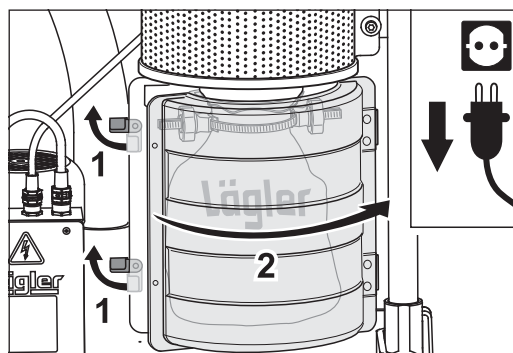

Fig. 45 Open the dust bag box by turning the two fasteners upwards (1) and open up the movable half of the dust bag box (2).
- 2 Open the dust bag box by turning the two fasteners upwards (fig. 45, 1) and open up the movable half of the dust bag box (fig. 45, 2).**